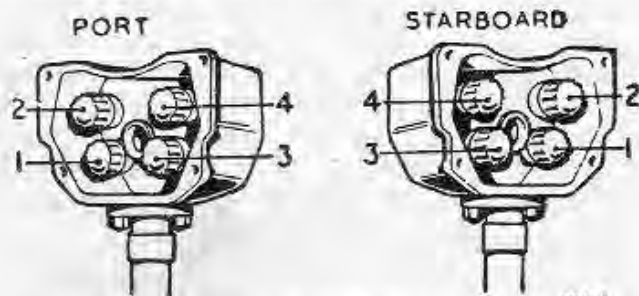

Fig. 3. Diagram of distributor terminals
34. The starboard H.T. cables cannot be completely removed until the air-intake, carburettor and induction manifold have been removed as described in para. 9. Detach the four H.T. leads from the sparking plugs and their terminals on the distributor; remove the nuts and washers securing the H.T. cable tube to the cooling baffle and lift the tube together with the leads from the engine. The port H.T. cables cannot be removed until the airscoop has been removed. Detach the four H.T. leads from the sparking plugs and their terminals on the distributor. Remove the two screws securing the fibre cable guide to the airscoop back plate, unscrew the two nuts and bolts securing the H.T. cable tube to the brackets on the cylinder heads and lift the tube together with the leads away from the engine. When refitting either the starboard or the port ignition harness, ensure that each H.T. lead is connected to its correct terminal on the distributor. Each lead is marked with its relative cylinder number; the terminal positions on the distributors are indicated in fig. 3.
distributor. Temporarily assemble the H.T. lead retaining nuts to their terminals, and the cover, with its securing bolts, spring washers and nuts, and the two nuts, to the distributor. Remove the two nuts securing the ignition harness to the studs on the induction manifold and lift the harness away from the engine. The port ignition harness cannot be completely removed until the push rods and push rod covers for all four cylinders have been removed as described in para. 54. When these parts have been removed proceed as follows. Detach the ignition harness from the sparking plugs and the port distributor in a similar manner to that described for the starboard harness. Unscrew the two nuts and bolts securing the ignition harness to the brackets on the cylinder heads, and lift the harness away from the engine. When refitting either the starboard or the port ignition harness ensure that each H.T. lead is connected to its correct terminal in the distributor. Each lead is marked with its relative cylinder number; the terminal positions in the distributors are illustrated in fig. 3.